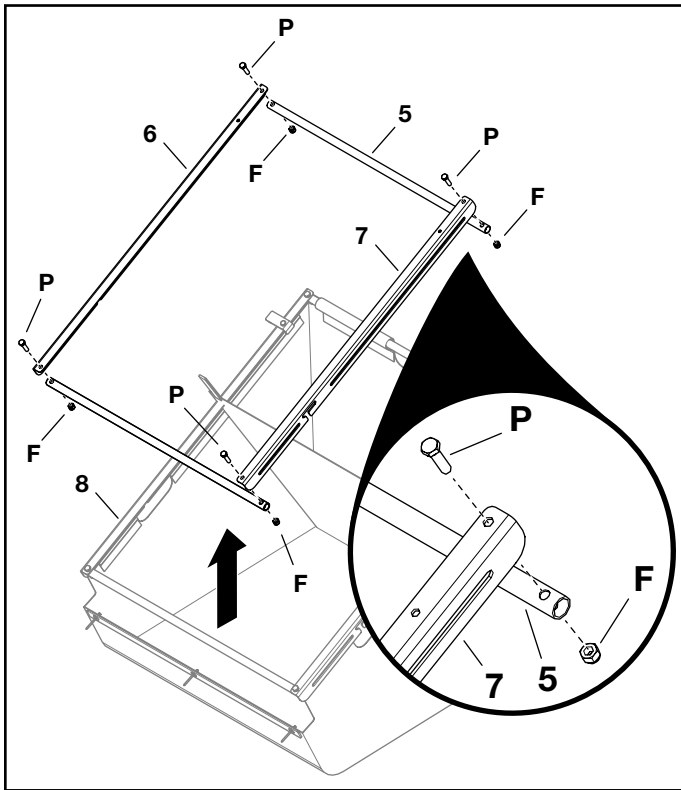

FIGURE 1
STEP 1: (SEE FIGURE 1)
- Attach the left and right side braces (6 and 7) to the cross brace tubes (5) using four 5/16-18 x 1-1/4 hex bolts (P) and .312-18 Nylock hex nuts (F).
- Attach the hopper bag (8) to the brace assembly by inserting the Velcro straps on the hopper bag (8) through the slots in the brace assembly.